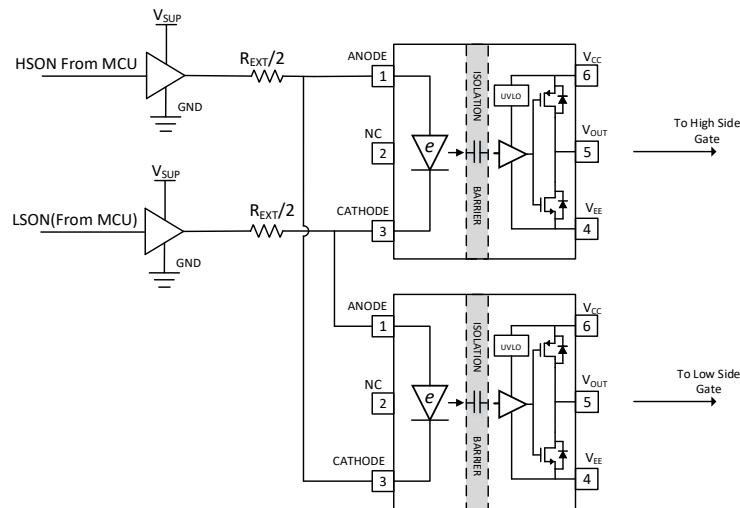

Figure 8.3 Interlock Protection using NSi6801
The recommended forward current range for NSi6801 is 7mA to 16mA. The value of input resistor, buffer supply voltage and buffer internal resistance influence the forward current, as shown in Equation (1). In Figure 8.1,  $R_{Buffer}$  is the on-resistance of the external NMOS. In Figure 8.2,  $R_{Buffer}$  is the buffer output impedance in output “High” state. In Figure 8.3,  $R_{Buffer}$  is the summary of buffer output impedance in “High” and “Low” state.